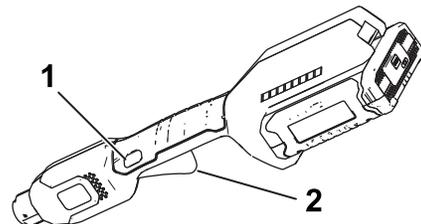

Figure 7
4. To start the trimmer, press the lockout button, then squeeze the variable-speed trigger (Figure 7).